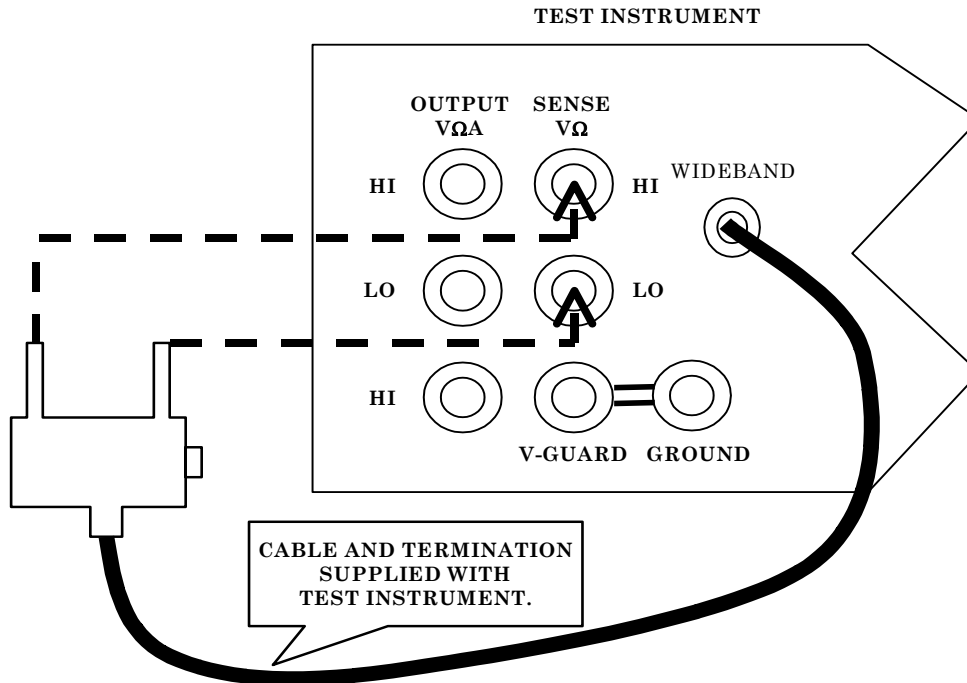

Figure 11. Gain calibration.
- (1) Verify that TI has warmed up for at least 30 minutes.
- (2) Press **SETUP MENUS** soft key.
- (3) Press **CAL** soft key; then press **CAL** again.
- (4) Press **WIDEBAND GAIN** soft key.
- (5) Enter the ambient temperature and press **ENTER** pushbutton.
- (6) Connect TI as shown in figure 11 for positive gain calibration.
- (7) Press **ENTER** pushbutton.